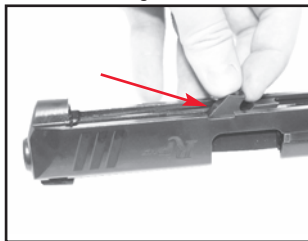

Figure 29
2. Seat the Barrel into the slide. See Figure 29.